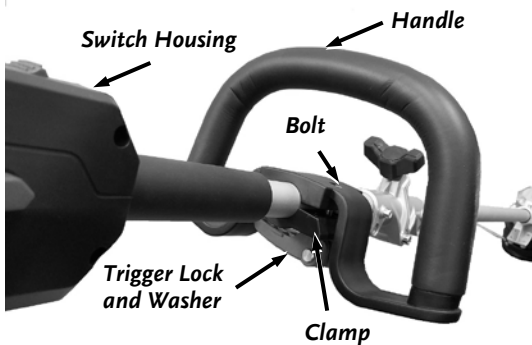

Figure 7
4. Open the Clamp on the Sub Handle and place the handle on to the Trimmer Shaft in front of the Switch Housing (**Figure 7**).